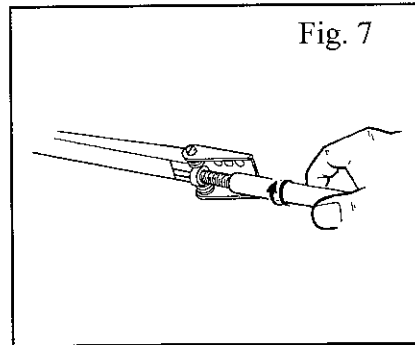

Fig. 7
6. ONow open the window just enough for to allowing the thread on the cylinder to catch the thread inside the cylinder housing (3). Then wind the cylinder on until equally much of the cylinders thread is visible on either side of the cylinder housing – see Fig.7.